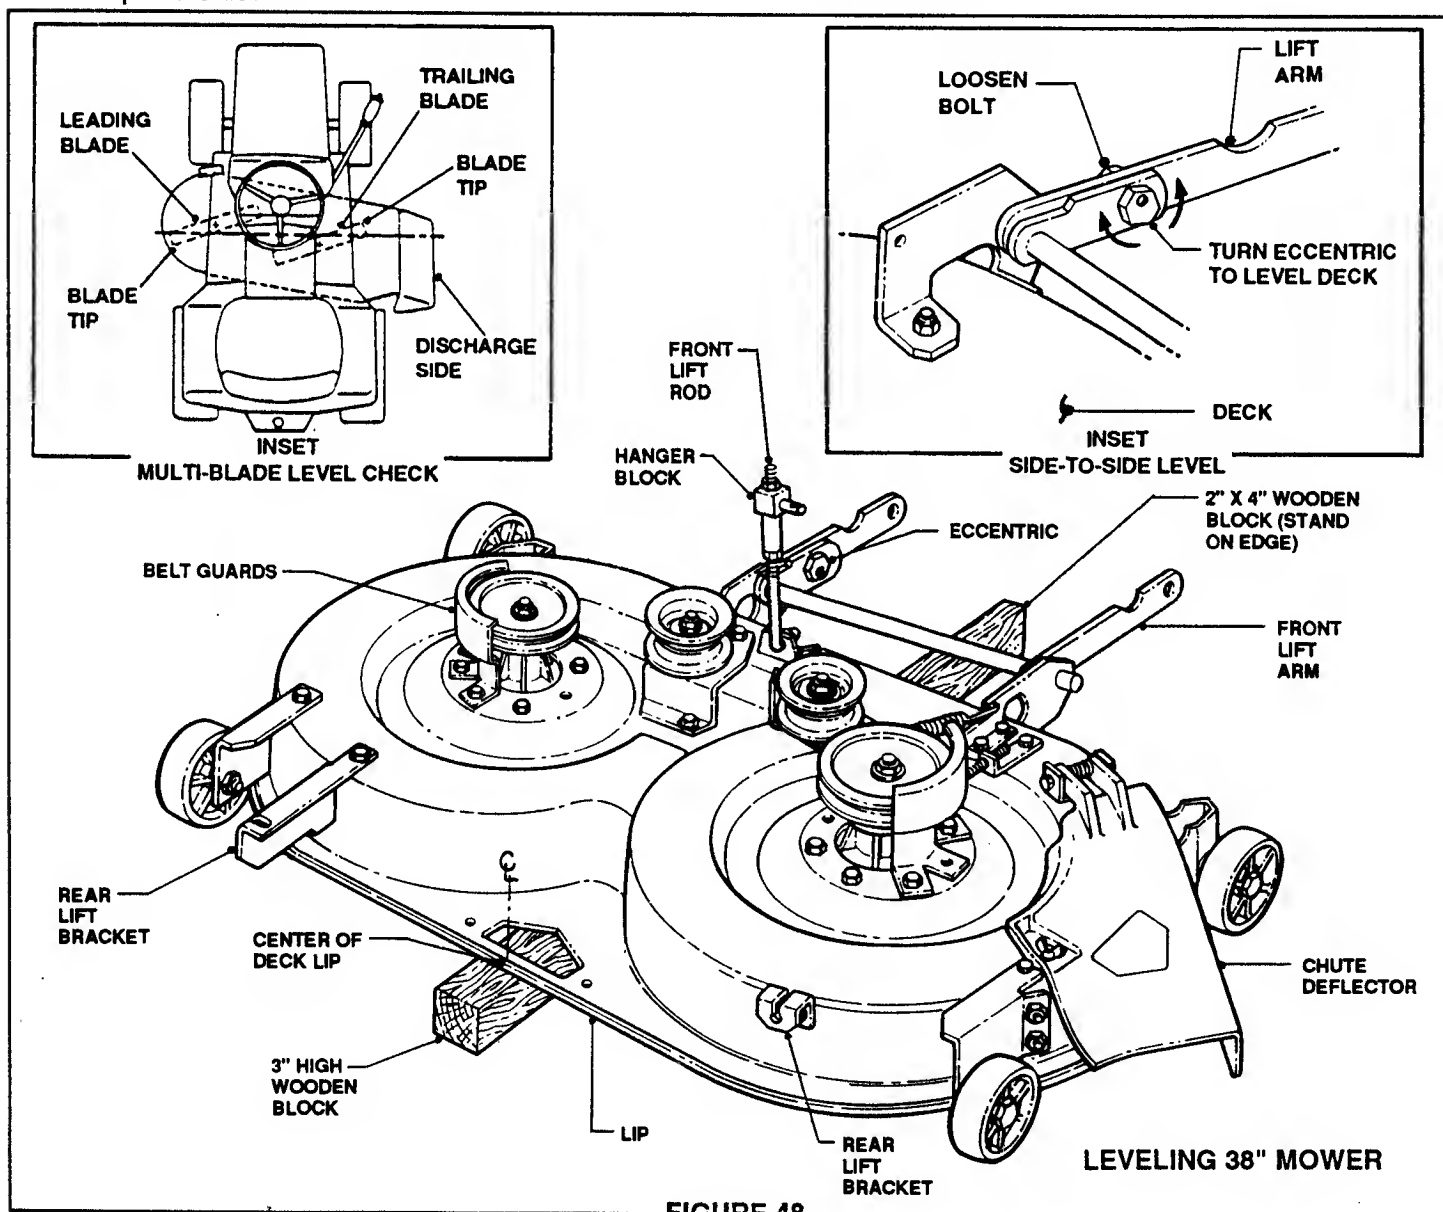

FIGURE 48
- C. Make sure that the distance from the floor to each blade tip is within $\frac{1}{8}$ " of each other at the rear (Blades should be lower at the rear). See Page 19, Figure 48 for blade level.
4. Place a 2 x 4" block on edge under the front lip of the deck in the exact center between the front lift arms. See Figure 48.
5. Disconnect the front lift rod and allow the front lip of the deck to rest on the 2 x 4 block. Adjust the hanger block until the lift rod can be reattached while the deck is still on the block. See Figure 48.
8. Turn both blades perpendicular to tractor frame. The leading blade should have one "tip" near the center of left side deck lip. One "tip" on trailing blade should face the discharge chute. See INSET, Figure 48.